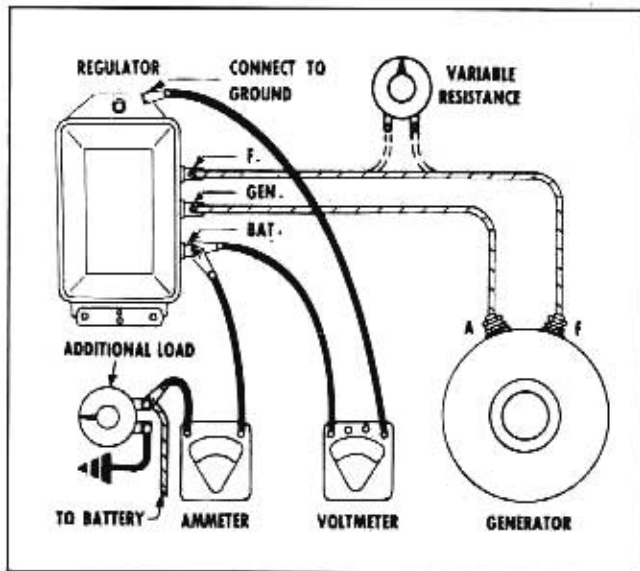

Fig. 11-21 Checking Current Regulator
1. Connect an ammeter into the charging circuit and connect voltmeter from **BAT** to ground (Fig. 11-21).